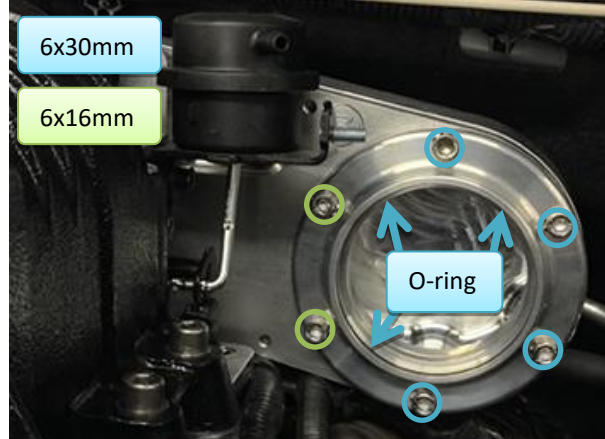

Figure 54: Rear intake tube flange installed on rear intake assembly.
32.4. Install rear intake tube flange (Figure 54)
- 32.4.2. Loosely tighten two 6x30mm bolts in holes closest to supercharger housing shown in Figure 54